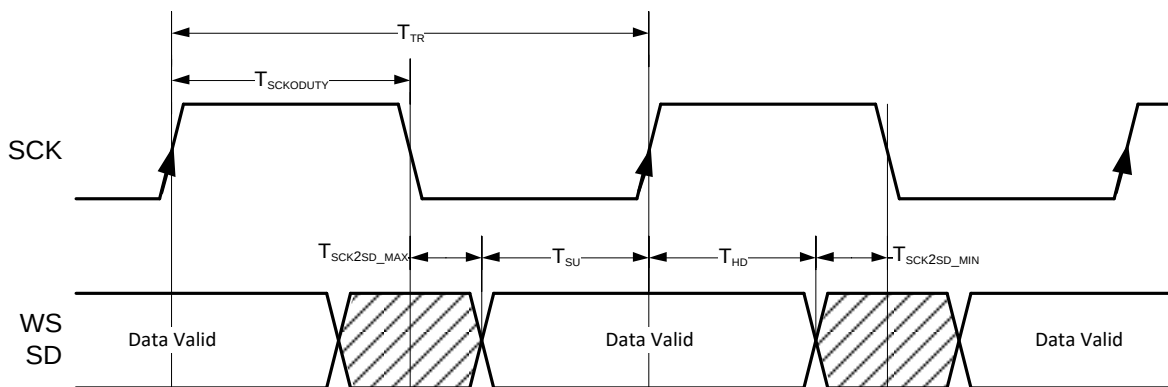

Figure 4.10. I²S Output Timings
- Refer to Figure 4.10 on page 53. Meets timings in the Philips I²S Specification.
Valid serial data is available at T_{SCK2SD} after the falling edge of the first AO_SCK cycle, and then captured downstream using the active rising edge of AO_SCK one clock period later. The setup time of data-to-AO_SCK (T_{SU}) and hold time of AO_SCK-to-data (T_{HD}) are a function of the worst case AO_SCK-to-output data delay (T_{SCK2SD}). Figure 4.10 on page 53 illustrates this timing relationship. Note that the active AO_SCK edge (rising edge) is shown with an arrowhead. For a falling edge sampling clock, the logic is reversed.